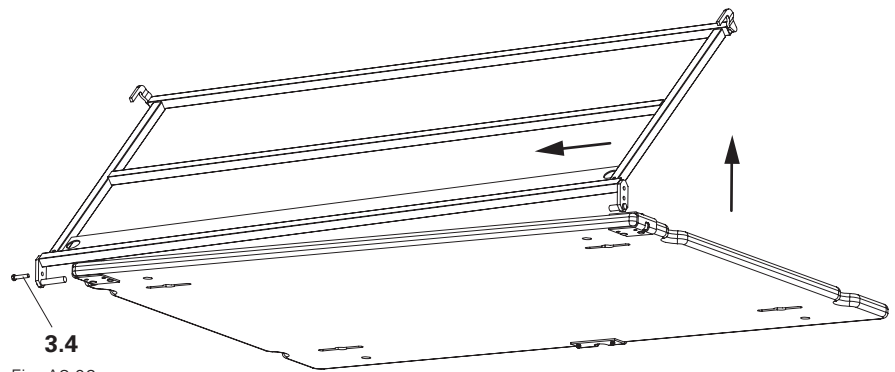

Fig. A3.06a
2. Raise the right-hand side of the guardrail, push it to the left and then remove. (Fig. A3.06a)